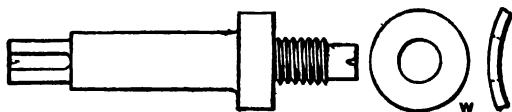

Fig. 14-33. A thread mandrel. *W* an equalizing washer.
*Threaded Mandrel.* The threaded mandrel, or nut arbor, (Fig. 14-33) is used for facing nuts or otherwise machining inside threaded pieces. Unless one face of the work is square with the axis of the